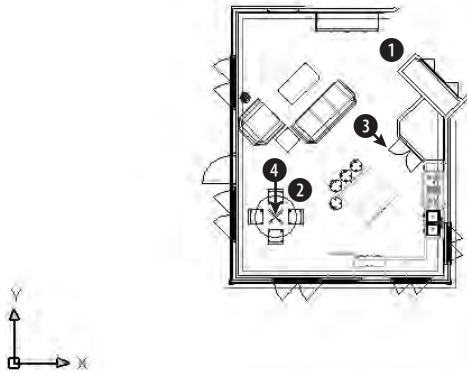

Figure 22-38: A 3D house in plan view
2. Save it as *ab22-03.dwg* in your AutoCAD Bible folder. This is a portion of a 3D house in plan view, as shown in Figure 22-38. Make sure that OSNAP is on. Set a running object snap set for endpoint and turn off any other object snaps.
3. You want to create a perspective view from approximately ① to ② in Figure 22-38. You can see right away that the wall near ① will need clipping. To get the distance of the clipping plane from the target, choose Tools ⇨ Inquiry ⇨ Distance and pick ③ and ④. The pertinent information is Distance = 12'-5 9/16". You may get a slightly different distance. To see the distance information, press F2 to open the AutoCAD Text window.